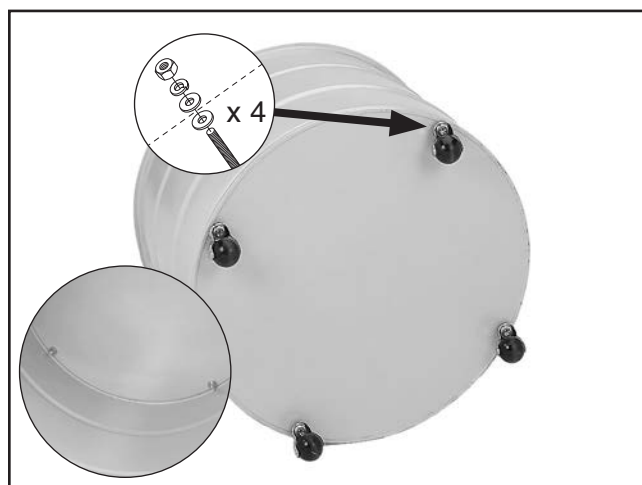

Figure 27. Casters attached to the lower collection drum.
23. Attach the casters to the bottom of the lower collection drum, as shown in **Figure 27**, using the (4) $\frac{3}{8}$ "-16 hex nuts, (8) $\frac{3}{8}$ " flat washers, and (4) $\frac{3}{8}$ " lock washers included in the box with the casters.